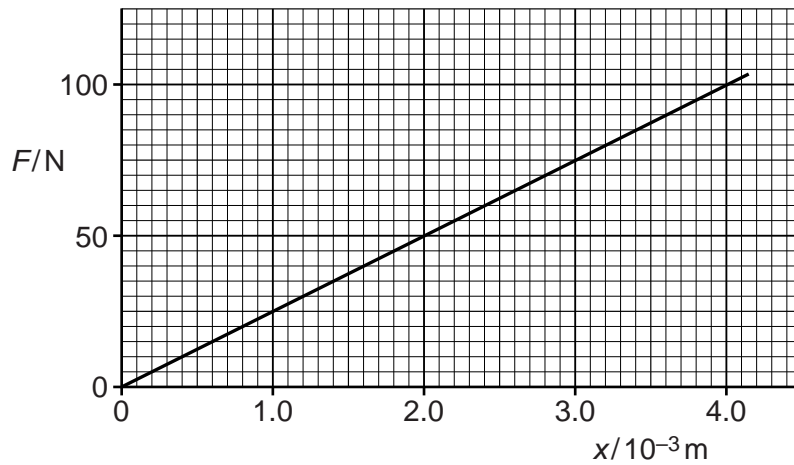

Fig. 8.1
- 2 A sample of wire is tested in the laboratory. Fig. 8.1 shows the force, F against extension, x graph for this wire.
(d) The test is repeated for another wire made from the same material, having the same length but **half** the diameter. Explain how the force against extension graph for this wire will differ from the graph of Fig. 8.1.